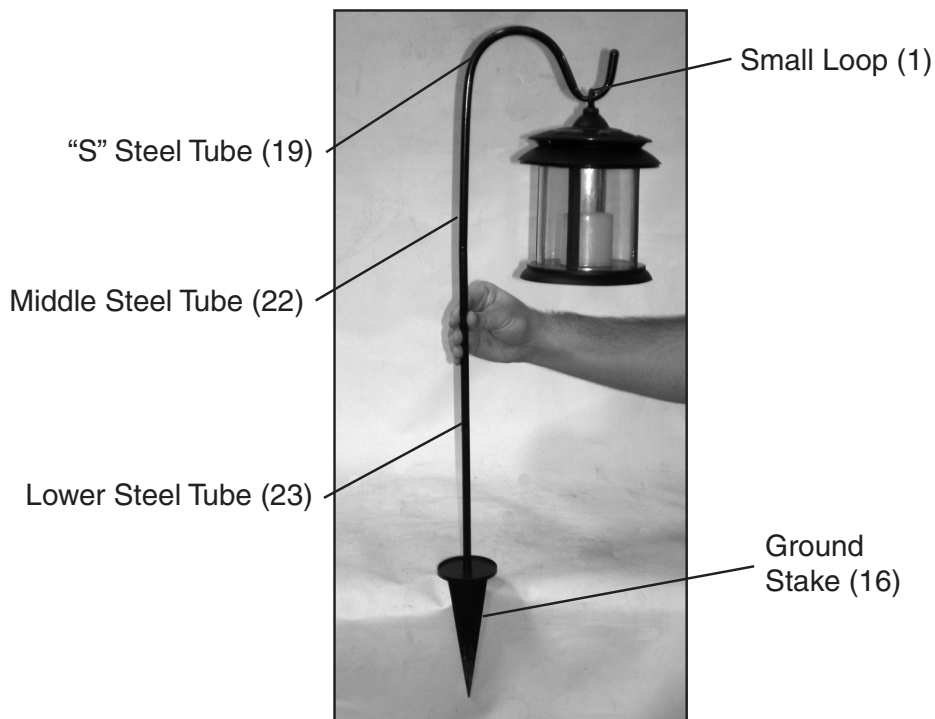

FIGURE 3
5. The Shepherd's Hook is screwed together with three threaded shafts (19, 22 and 23). Hook inserts into the top of the Ground Stake (16) and the Lantern hangs from the
hook by a Small Loop (1) at the top of the light. *See Figure 3 and Assembly Drawing on page 7.*
6. Choose the location for the Solar Candle Garden Lantern and stick the Shepherd's Hook and Ground Stake (16) into the ground, avoiding any underground wiring or plumbing. Be sure to choose a location that gets plenty of sunshine during the day and is not near a porch or street light at night. *See Figure 3.*